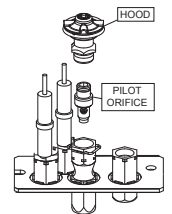

Fig. 5
- ☐ 8. Remove the pilot hood from the pilot assembly by unhooking retaining clip and pulling pilot hood vertically. Use a 5/32" Allen key to unscrew the injector. Replace the pilot injector with the one supplied. Re-assemble the pilot hood onto the assembly and reattach retaining clip. Ensure key position for proper alignment (**Fig. 5**).